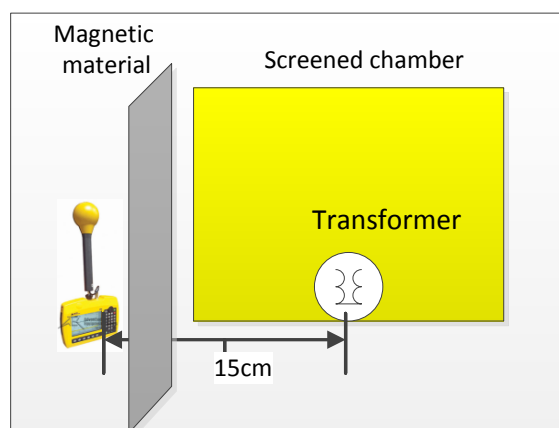

Fig. 1- experimental set-up 1
1. The transformer was held inside the chamber, when totally closed. The magnetic field was measured at a distance of 15cm around the chamber with/without the presence of Apron-m sheet, as depicted in Fig. 1.